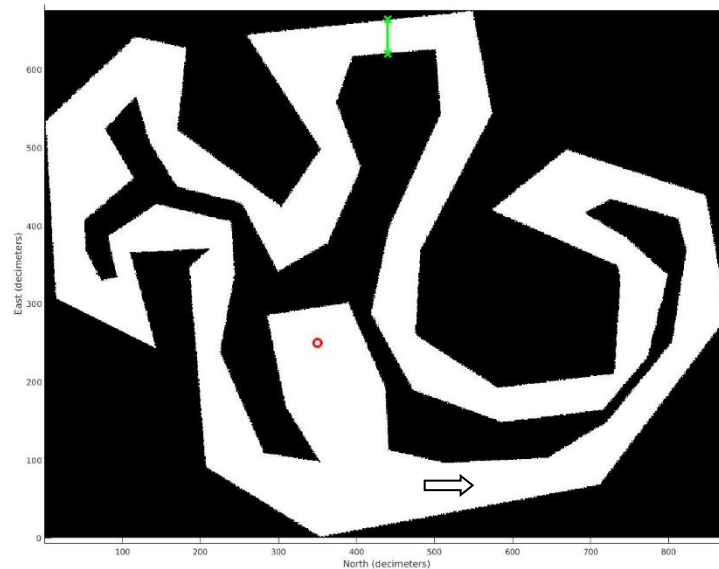
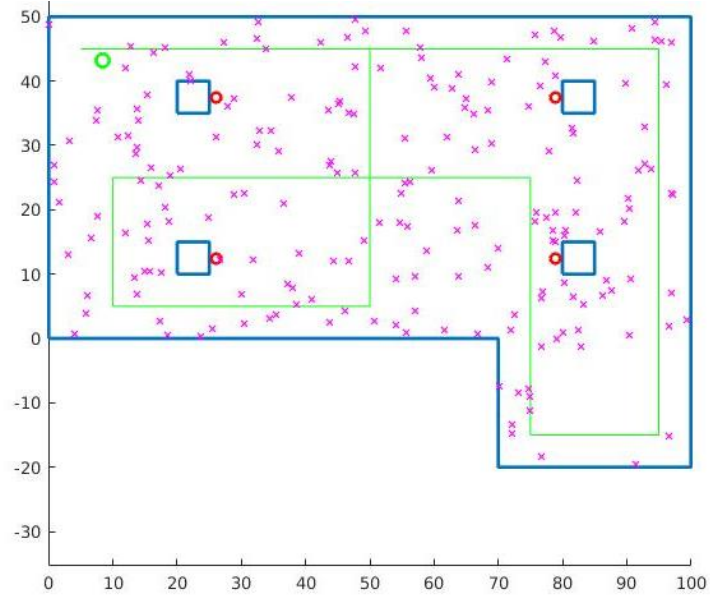

Figure 2: Racing course map, start/finish (red circle) and checkpoint line (green with Xs).
Figure 4: Warehouse blueprint in blue, rover path in green, known fiducial markers in red and unknown fiducials in magenta.
- d) Implement the algorithm defined above and fly a single circuit of the course, defined in racing.m and depicted in Figure 2, from the start through the checkpoint and back to the start point. Use only the currently constructed map for planning, and note that the overall map size is 87.6 X 67.6 m, and is defined in 0.1 m grid cells. Show your map and path at six evenly spaced points in time around the loop.
complete the reconstruction, and an initial position for the rover to start from. The true initial position of the rover is not known accurately, but the operators attempt to place the rover at a known spot relative to the warehouse map, defined by the green circle in Figure 2. The prior uncertainty can be modeled as additive Gaussian noise about the mean, $x_0 = [10 \ 40]$ m in blueprint coordinates, with covariance of 4 m^2 in the x and y axes. The operators have placed 200 uniquely identifiable fiducial markers on the ceiling detectable by the rover for visual localization, and the fiducial marker locations are mostly unknown. However, four known markers have been placed on the inside edges of the four main roof pylons, as depicted in Figure 4. This is semi-SLAM in that some of the features and all of the obstacle locations are known in advance, but the remainder of the features must be mapped while localizing the rover.